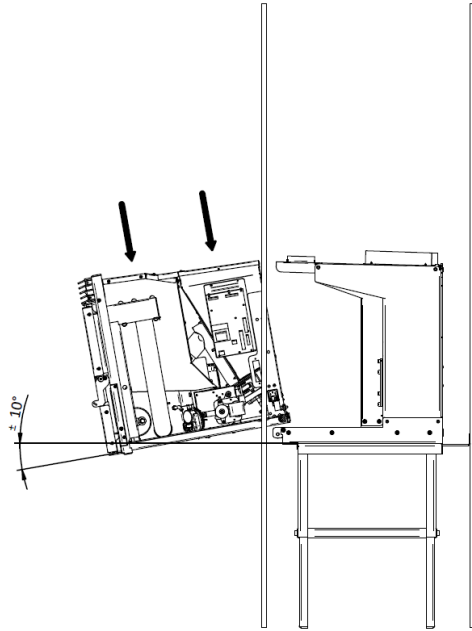

Figure 10 – Installation
- After securing the base of the equipment and the chimney being installed place the moving part of the equipment as shown in Figure 10.